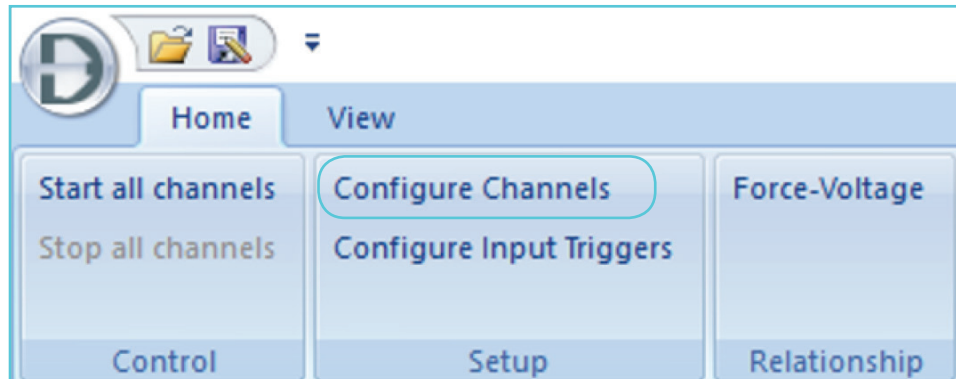

Figure 4.1.3 Opening an existing protocol to load into All channels.
1. Make a stimulation protocol for all channels using the 'Configure channels' in the 'Setup' sub menu in the 'Home' menu (figure 4.1.3).